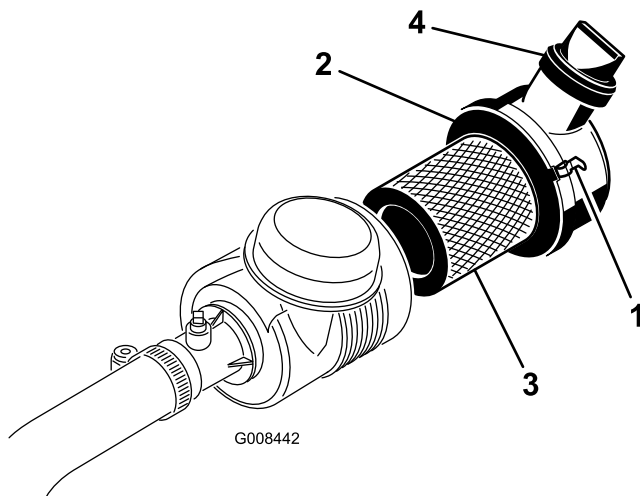

Figure 30
1. Release the latches that secure the air-cleaner cover to the air-cleaner body (Figure 30).
7. Ensure that the latches secure the cover to the body (Figure 30).